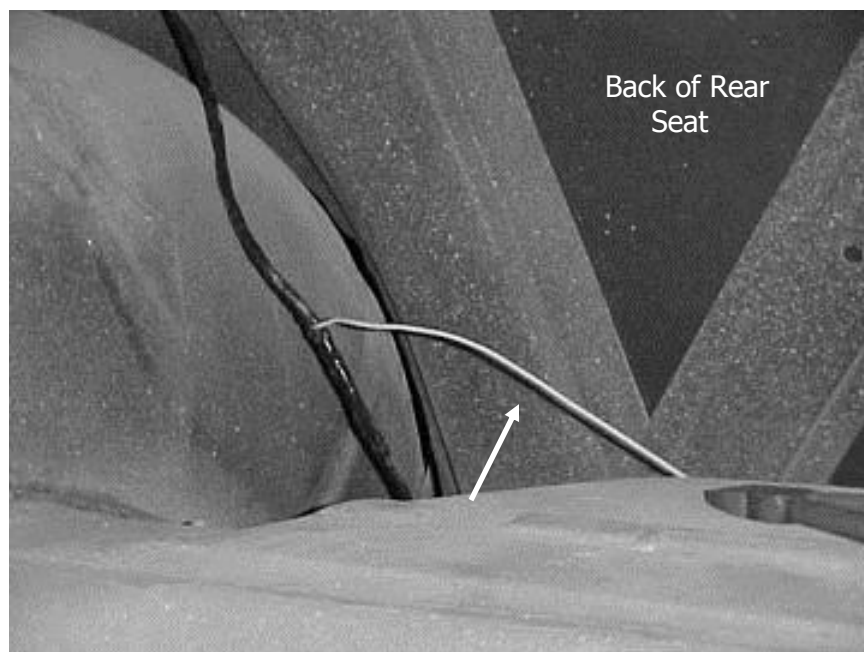

Figure 8.8 Fuel Sender Wire Routing
- 8.2.4** Locate the wire for the fuel sending unit and route it as shown in Figure 8.8. Connect the wire to the sending unit.